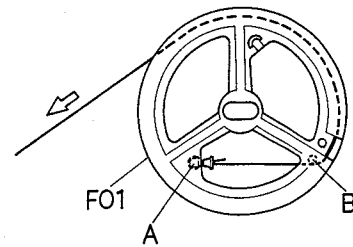

Fig. 5.1.2
(1) Referring to Fig. 5.1.2., set a dial thread to a protrusion "A" of F01 (Front-end Pulley) by way of protrusion "B".